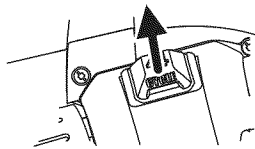

Fig. 23
2. Open the spark plug cover (Fig. 23).